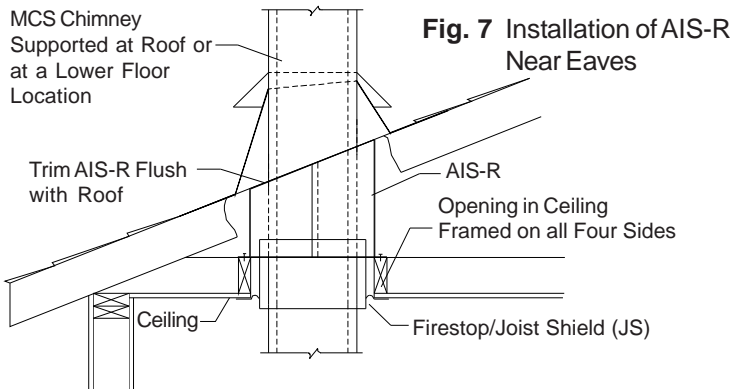
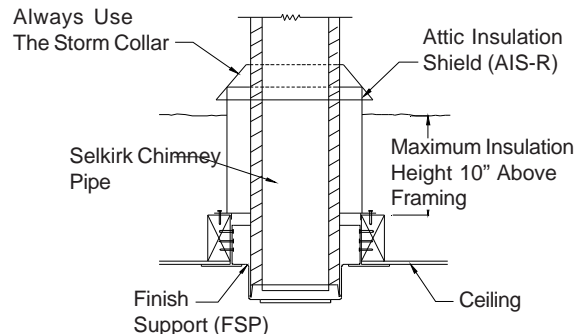

Fig. 7 Installation of AIS-R Near Eaves
Fig. 8 AIS-R Used Over Finish Support
The 2-part Attic Insulation Shield (AIS-R) consists of two half cylinders, each with its own base plate, together with a Storm Collar (SC) closure at the upper end (see Fig. 6). It may be used for new as well as retrofit installations. For retrofit installation the Attic Insulation Shield (AIS-R) may be installed around an existing chimney without removing it. It is also adaptable to limited headroom installations near eaves of roofs where it can be slid into place, or the two halves can be installed down through a roof opening and placed around the chimney (see Fig. 7).
The split cylinder low profile design of the AIS-R permits it to be used close to eaves and side walls (see Fig. 7). If there is sufficient clearance the storm collar should be used. If the cylindrical shield projects through the roof it should be trimmed flush with the roof surface so it does not interfere with the flashing.
NOTE: The 2-Part Attic Insulation Shield (AIS-R) does not function as a Fire Stop or Joist Shield and must be used with other parts that are designated as such. Parts that serve as Fire Stops include the Ceiling Support (CSP/FSP), Fire Stop/Trim Plate-TPS (with supplemental JS), and the Fire Stop/Joist Shield (JS). An installation above a Finish Support Package is shown in Fig. 8. If the chimney system is supported at a lower level, a Fire Stop/Joist Shield must be used (see Fig. 7).